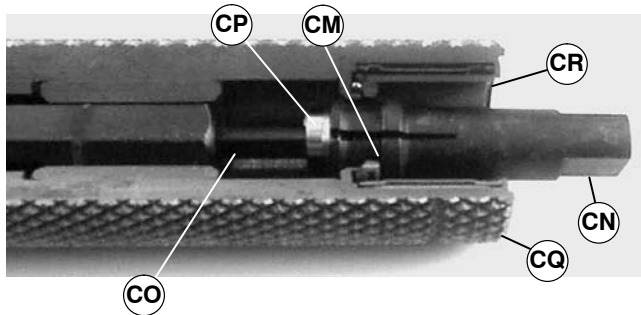

Figure 48
1. Insert bearing removal tool (part # 25-05☆) (CN of Figure 48) into the pulley (CQ) until shoulder (CM) seats against bottom of bearing (CR).